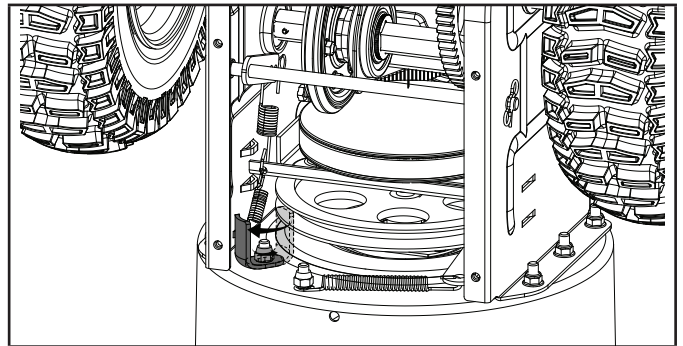

Figure 27A
- Slip the new auger drive belt into the compartment from the bottom of the snowblower placing it around the bottom of the auger drive pulley and slipping it around the front pulley on the engine. Ensure the belt is positioned between the bottom belt guard and the bottom of the auger drive pulley. You may need to remove the bolt holding the lower belt guard in place to properly seat the belt into the pulley. Replace the belt guard and bolt after installing the belt into the pulley (Fig. 27A/B).